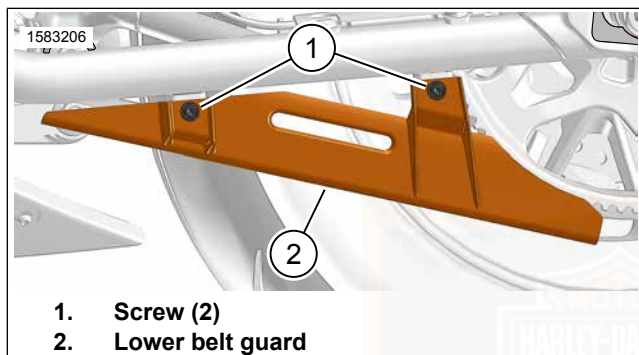
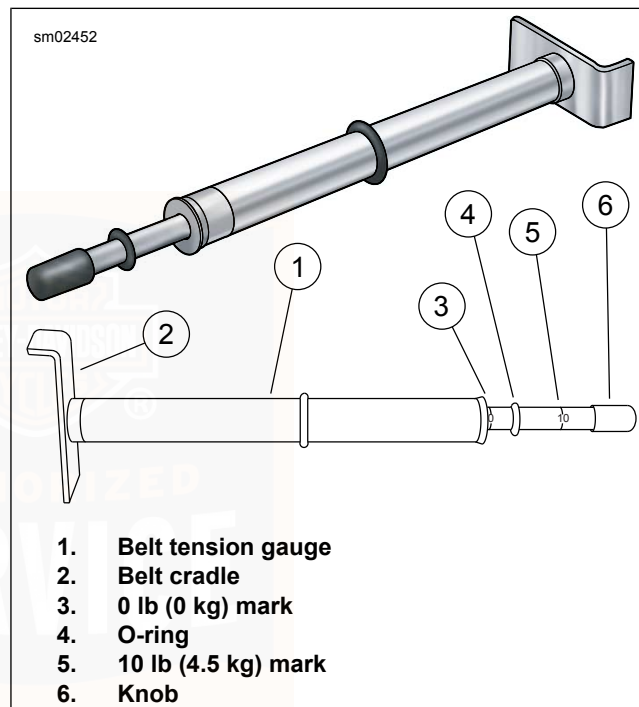

Figure 63. Lower Belt Guard
Figure 66. Belt Tension Gauge
2. See Figure 66. Measure belt deflection using:
6. See Figure 63. Install lower belt guard.
2. See Figure 63. Remove lower belt guard.
- a. Remove screws (1) and lower belt guard (2).
3. See Figure 66. Measure belt deflection using: